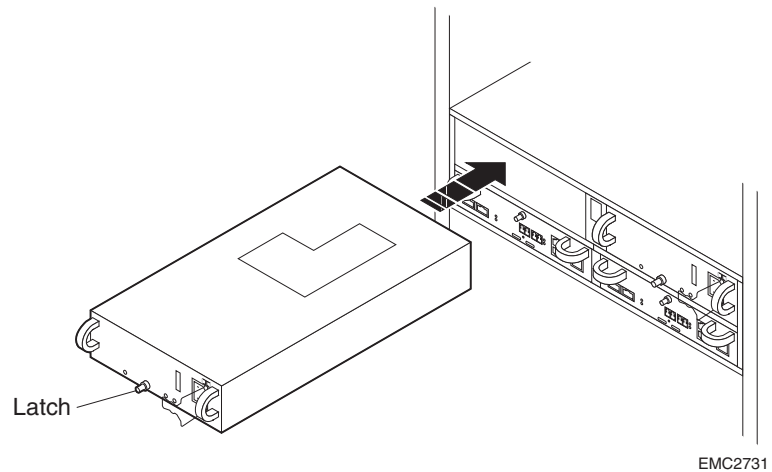

Figure 3-15 Installing a Power/Cooling Module
1. *Gently* insert the new module into the enclosure, as shown in Figure 3-15. Be sure the module is completely seated.